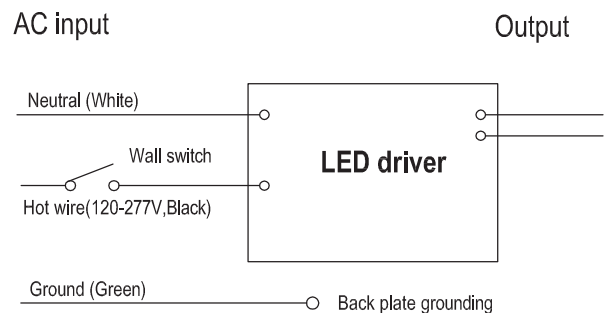

Fig 5
- 1, Standard (default) facility, luminaire on/off control by photosensor, if ambient illumination $< 10\text{Lx}$ luminaire turn on automatically, if illumination $> 30\text{Lx}$, luminaire turn off. Photosensor facility can change to Wall switch control unit, connect external wall switch on the hot wire (see Fig 5).